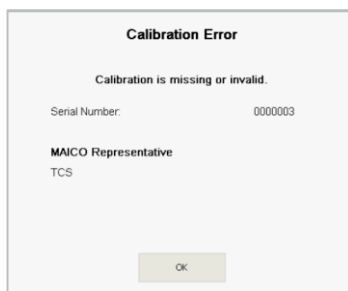

Figure 32
**Calibration Error:** If a calibration is missing or invalid a message box will appear (Figure 32). Pressing **OK** will lead to the home screen. The test screens are not available. The service and calibration must be performed by your dealer or by a service center authorized by MAICO. See section 3.2.